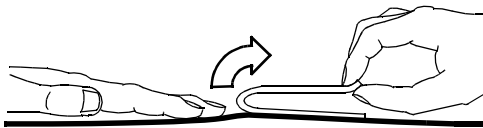

Figure 5-5 Removing Therapy Electrodes from Skin
- 1 Slowly peel back the electrode from the edge, supporting the skin as shown in Figure 5-5.